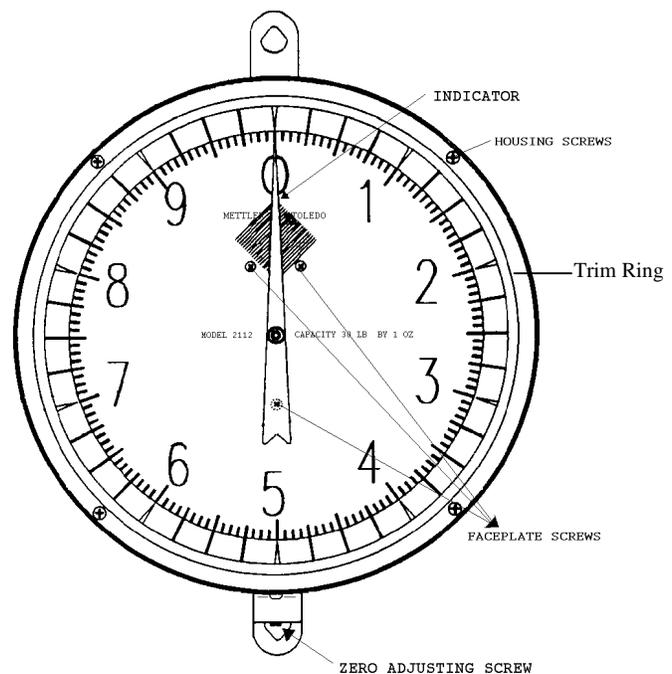

Figure 4
1. Place the scale on a clean flat working surface and remove both trim and glass by removing eight housing screws and four rod supports (Figure 4).
3. Remove three screws holding back chart to frame. Remove chart to expose inner mechanics of the scale (Figure 4).